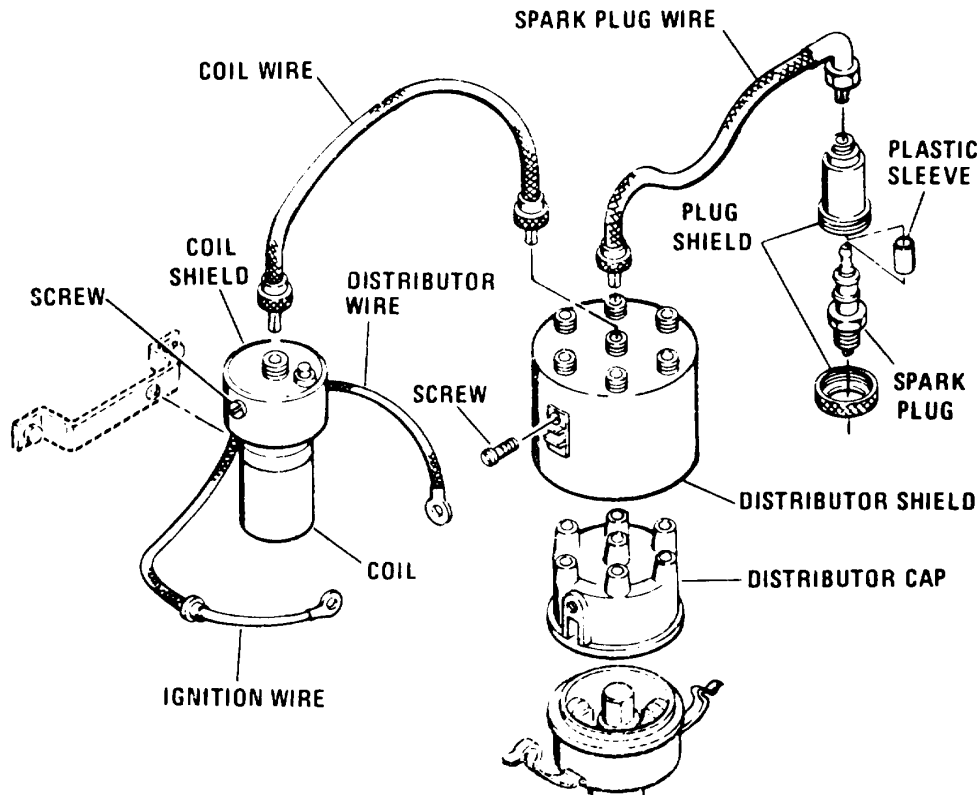

Figure 4-1. Radio interference suppression Components
a. *Primary Suppression components.* The primary suppression components are those whose primary function is to suppress radio interference. These components are illustrated in figure 4-1.
primary function. These components are illustrated in figure 4-1.
Inspect all components for damage and secure installation. Replace a defective component. Refer to figure 4-1 for removal and installation.